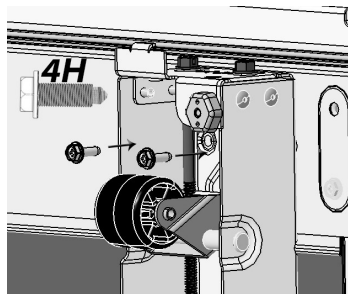
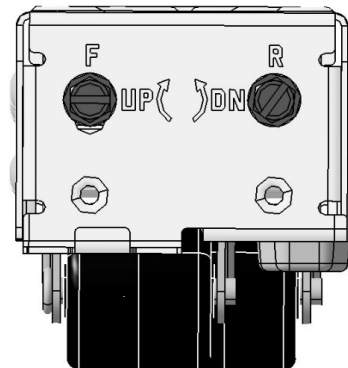

Fig. 4
Fig. 5
- Using the 4H bolts from step 1, fasten the front of the Leveler Assembly to the refrigerator/freezer using a $\frac{5}{16}$ " nut driver (Fig. 4). If more fastening space is required, rotate the bolt labeled **F** clockwise (Fig. 5) using a flathead screwdriver or a $\frac{3}{8}$ " socket wrench.